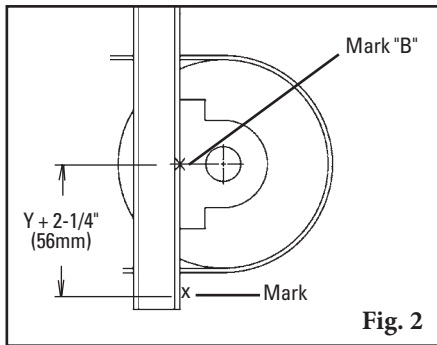

Fig. 2
- 3a. **Mark X dimension.** Subtract the above dimension (Step 2a) from the selected X dimension to establish the modified X dimension. With this new X dimension measure horizontally from the front of the pulley shaft forward on Line B and mark on the chute (Fig. 2).
- 2c. **Measure down the given Y dimension plus 2-1/4" (56mm) and mark (Fig. 2).** This mark indicates the top location of support material to be added for installing the cleaner mounting brackets.
- 8b. **Assemble the tension spring and the J bolt mount to an adjusting arm** (Fig. 2). **IMPORTANT:** Allow for at least 4" to 5" (100-125mm) upward movement on the J bolt for future blade tip adjustments.
All shimming is done between the suspension arm bases and the pole plate (Fig. 2).
2. **Loosen both suspension arm nuts on tip to be shimmed.** Push the tip against the head pulley to move the suspension arms away from the pole plate (Fig. 2).